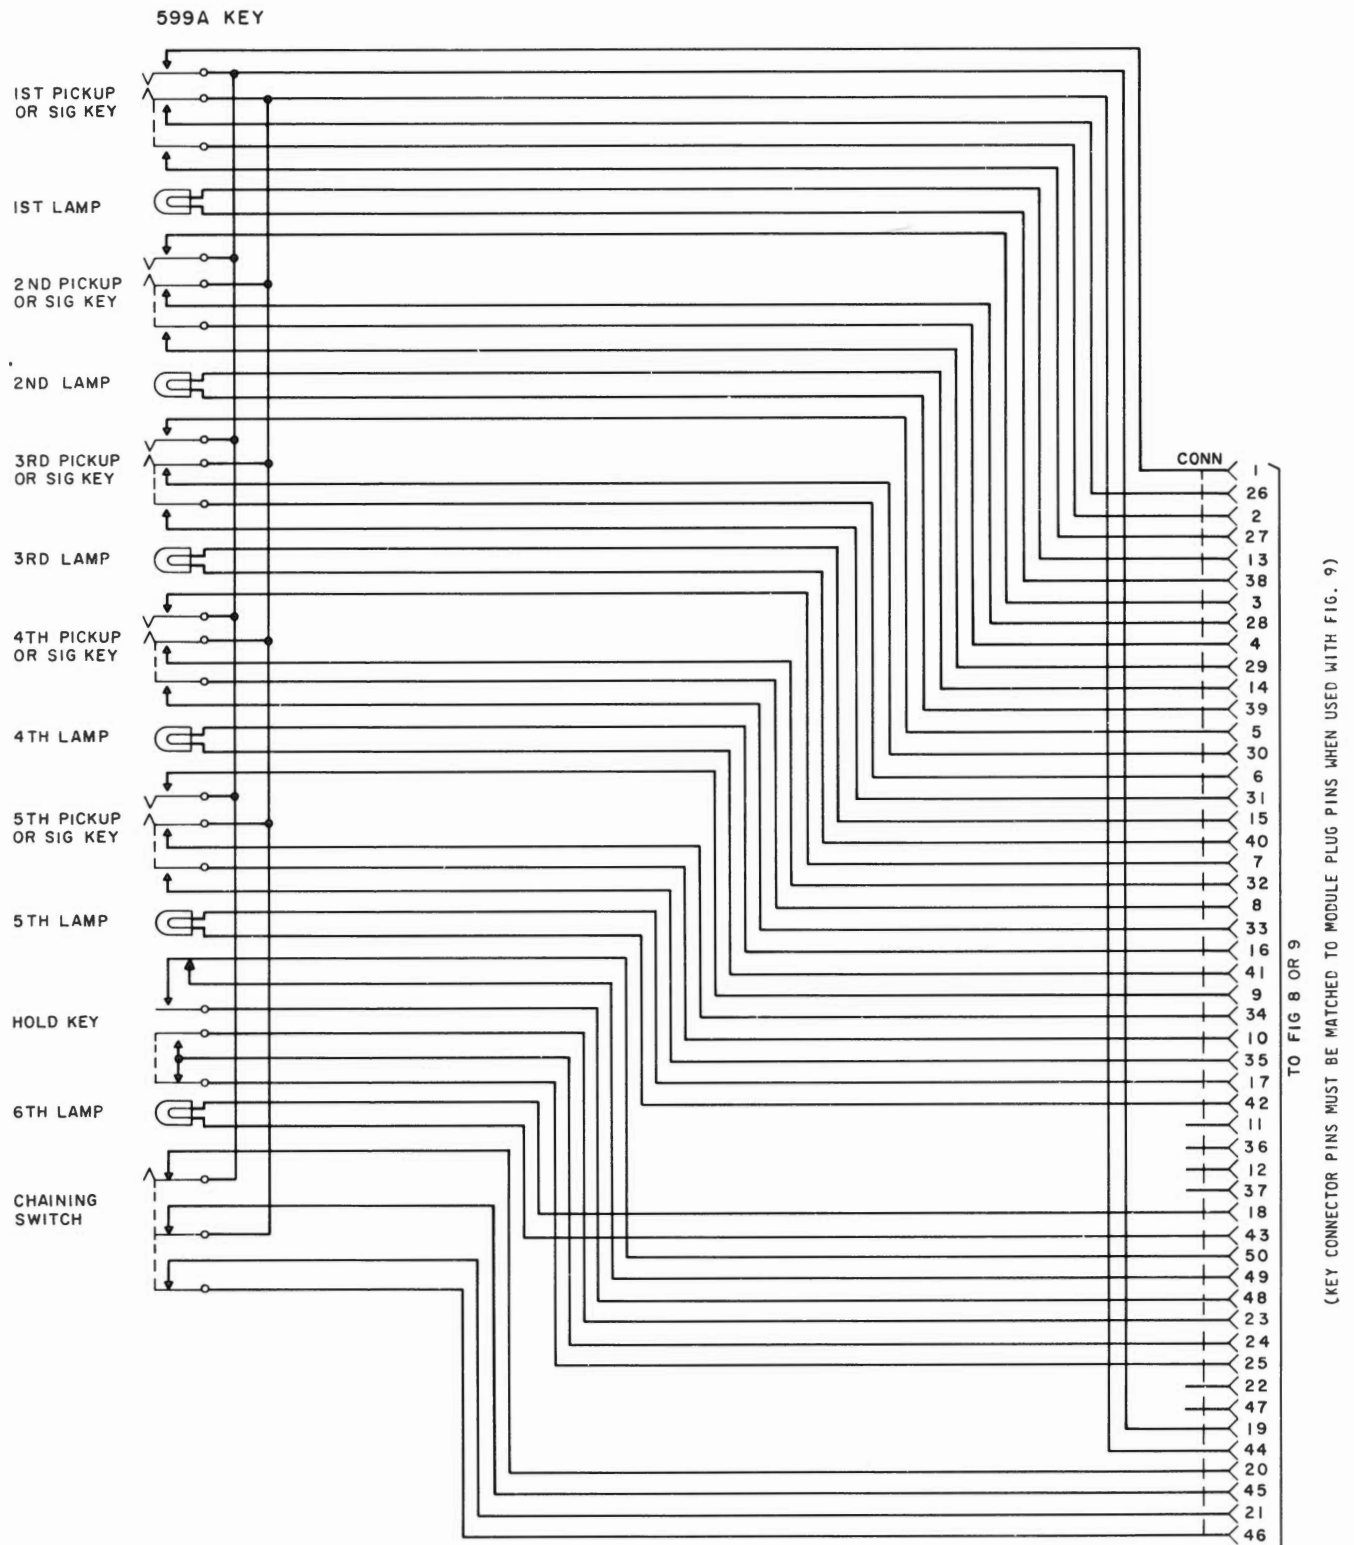

Fig. 1 — 599A Key
- Provide both old and new circuit designation from apparatus cabinet to keys in 630- and 631-type CALL DIRECTOR sets using either Manufacture Discontinued (MD) or even-count color-coded cords and cable connectors.
1.03 To facilitate the use of this practice, the circuit leads follow a straight line pattern as near as possible from the apparatus cabinet to the key. Key connector pins (Fig. 1 through 7) are so placed in this section to overlay into corresponding module plug pins in the new even-count CALL DIRECTOR sets. (See Fig. 8.) However, when keys (Fig. 1 through 7) are overlaid into the old (MD) count CALL DIRECTOR sets (Fig. 9), it is necessary to match key connector pins to module plug pins.